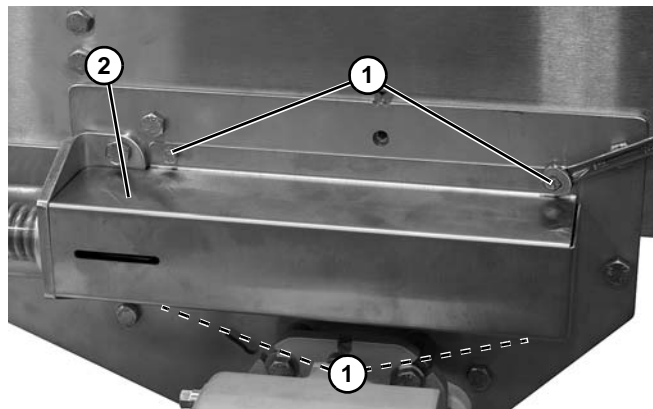

Figure 94
4. Remove four screws (Figure 94, item 1) and cover (Figure 94, item 1).